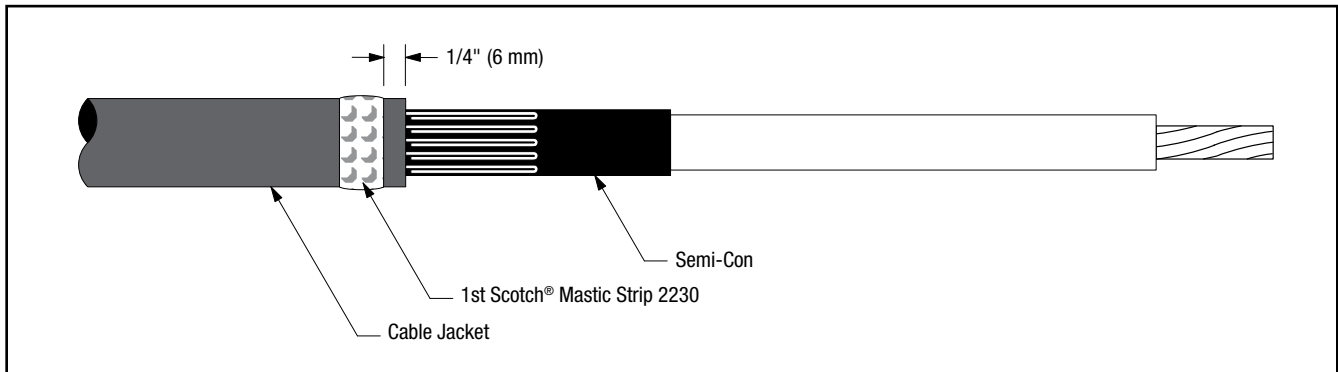

Figure 10
- 8.1 Select a Scotch® Mastic Strip 2230 from kit and remove white release liners. Using light tension apply a **SINGLE WRAP** of mastic around the cable jacket 1/4" (6 mm) from cut edge (Figure 10). Cut off excess.